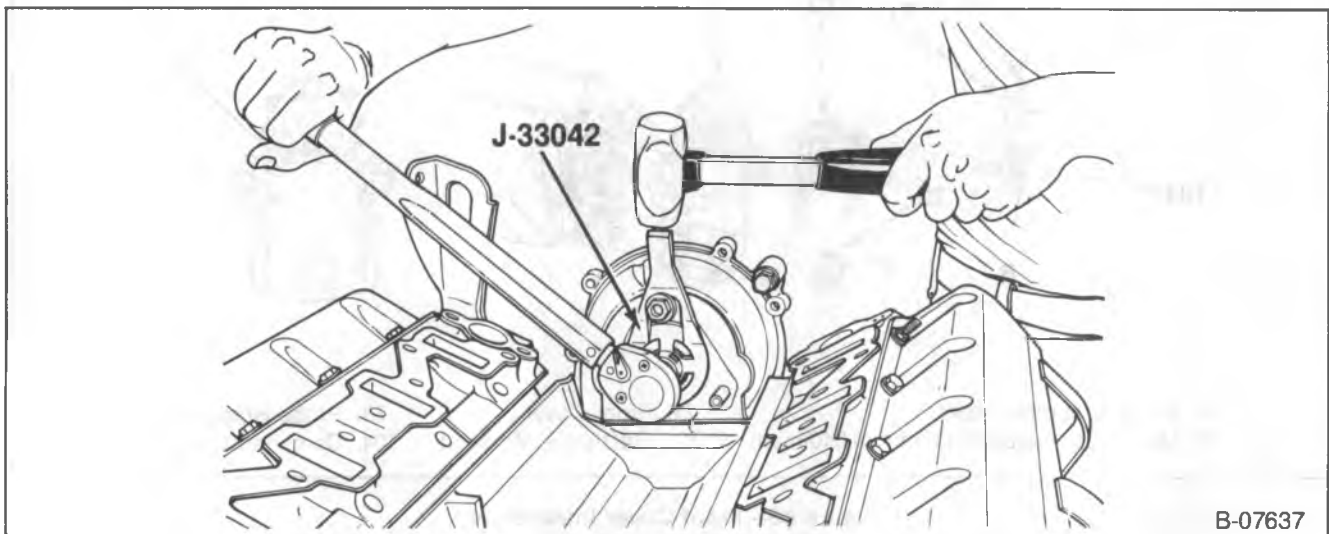

Figure 42—Marking TDC on the Front Cover
4. Fasten J 33042 to the injection pump gear and tighten (figure 42).